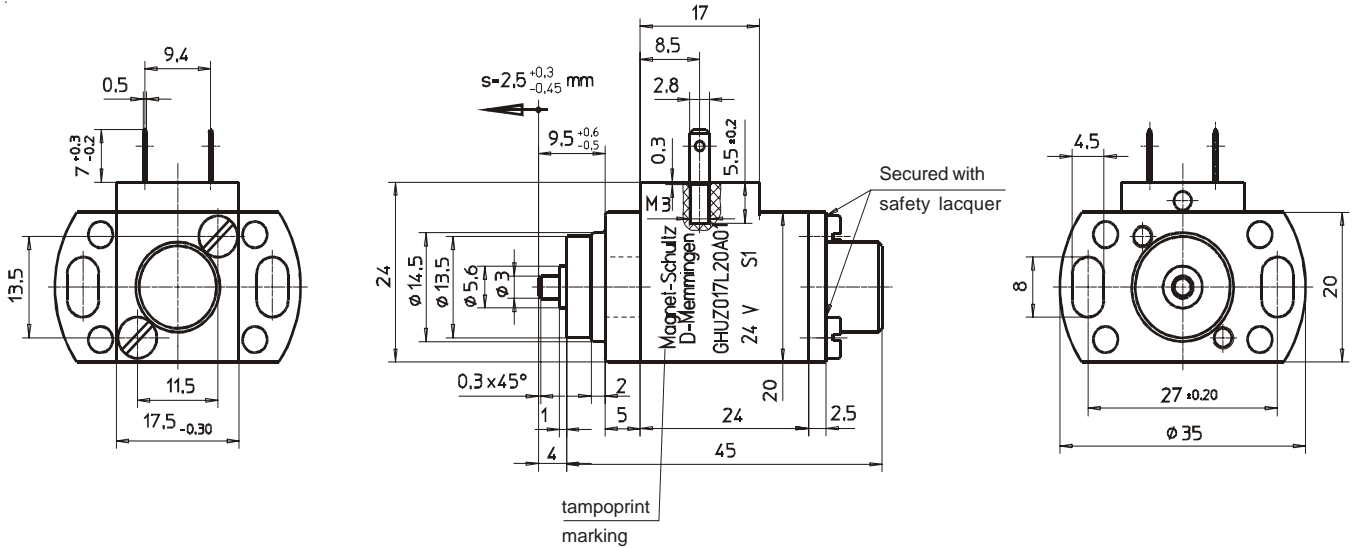

Fig. 3: Type G HU Z 017 L20 A02 / A02
- flat connector: see fig. 3 and 4 for dimensions